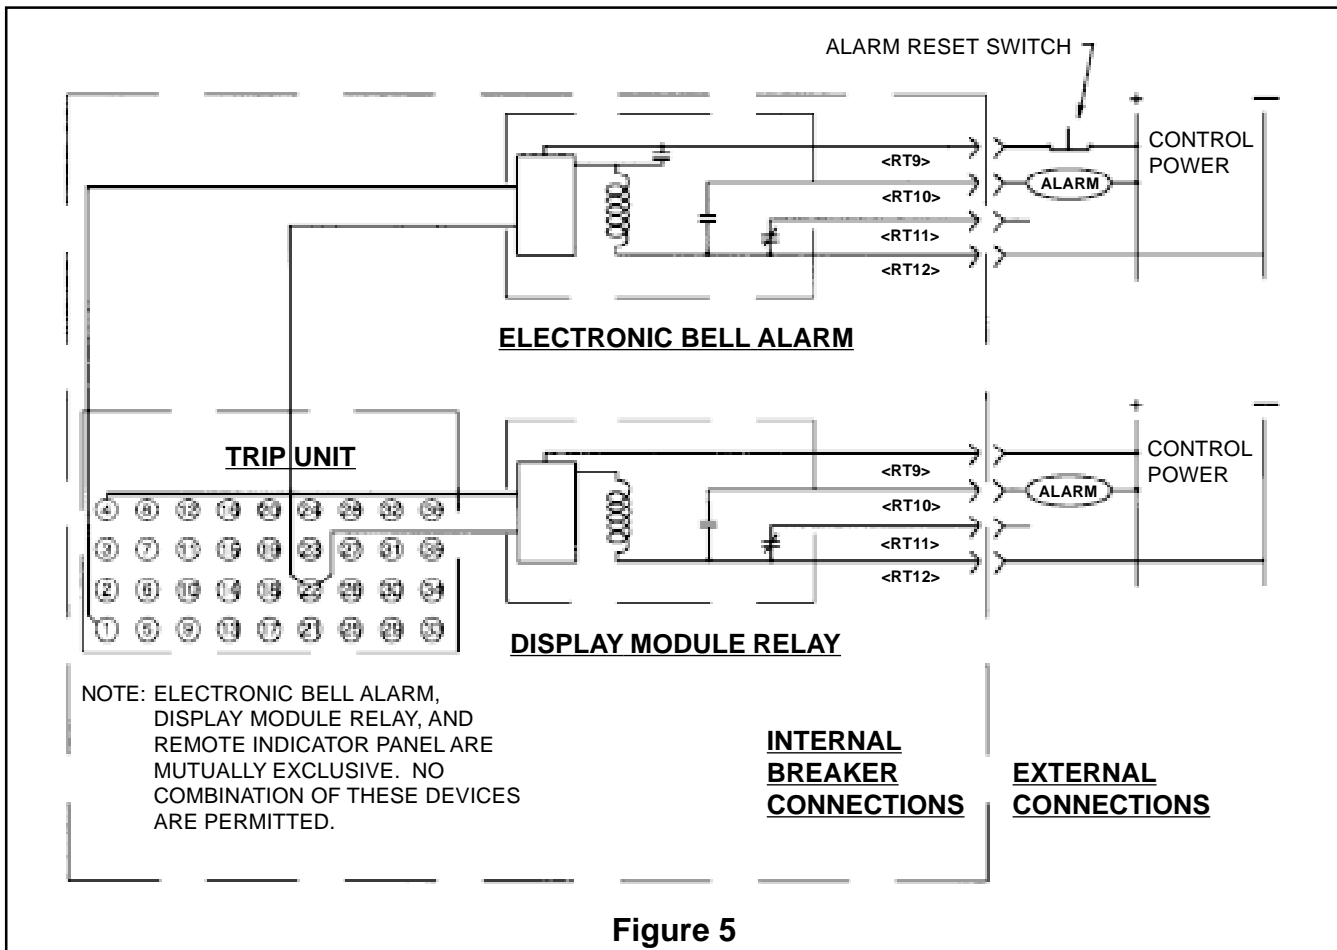

Figure 5
6. With a small screwdriver press in the tab on the right side of the 36-pin trip unit plug and release it from the mounting bracket. Connect the 2 short wires on this accessory to the trip unit 36-pin plug. The wire labeled #22 connects to pin hole #22 and the other wire, which is not labeled, connects to pin #1 for the Electronic Bell Alarm or pin #4 for the Display Module Relay. Route wires under the reset mechanism and out the top wire guide in the midbarrier. Connect wires labeled RT9 through RT12 to the Right Top Terminal Block as marked. Refer to Figures 3 and 4, Page 2, and Figure 5 for wiring connections and routing. Snap the 36-pin plug back into the bracket, taking care to orient it properly.
All external wiring beyond the terminal block (See Figure 5, Page 3) must be 18 AWG. This accessory is available in four different control power ratings: 24VDC, 48VDC, 125VDC, and 120VAC. Connect the correct control power to terminals RT9 and RT12 using the correct polarity as shown in Figure 5, Page 3.
The Bell Alarm will latch the relay output when it receives a trip signal from the trip unit. Resetting the Bell Alarm is done by manually pushing the user-installed reset switch as shown in Figure 5, Page 3.